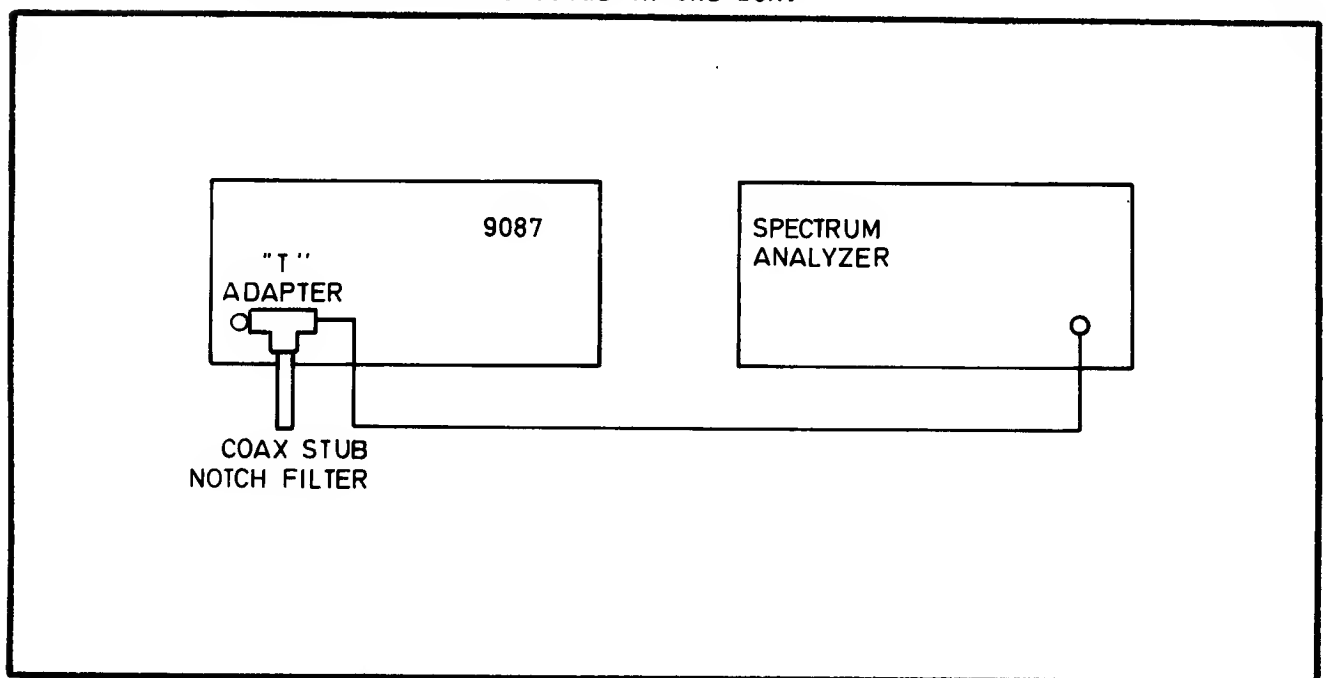

Fig. 7.31 Connections for Broadband Noise Floor Verification
- (a) Analyzer noise measurement in dBm (A)
- (b) Carrier level in dBm (C)
- (c) Reference level of +13 dBm (R)
- (c) Set the 9087 amplitude to +13 dBm (R).
- (e) Connect the coaxial stub at the 9087 end of the connection to the analyzer, as shown in Fig. 7.31.
- (l) Note the noise level with the output ON (A).
- (m) Increase the 9087 frequency by 200 MHz and note the carrier level (C).